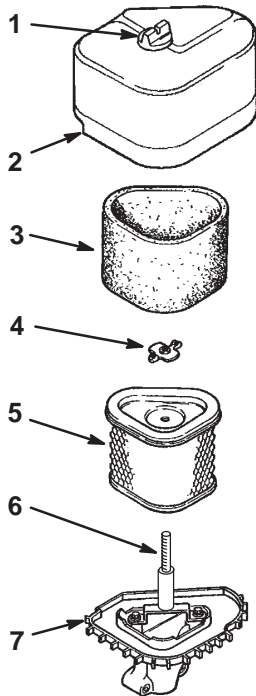

Figure 18
2. Clean around the air cleaner to prevent dirt from getting into the engine and causing damage. Unscrew the knob and remove the air cleaner cover (Fig. 18).
3. Remove the wing nut and slide the foam and paper air cleaner assembly off of the stud (Fig. 18).
4. Carefully slide the foam element off of the paper element (Fig. 18).
1. Carefully slide the foam element onto the paper air cleaner element (Fig. 18).
2. Place the air cleaner assembly onto the air cleaner base (Fig. 18).
3. Install the air cleaner cover and secure it with the cover nut (Fig. 18).